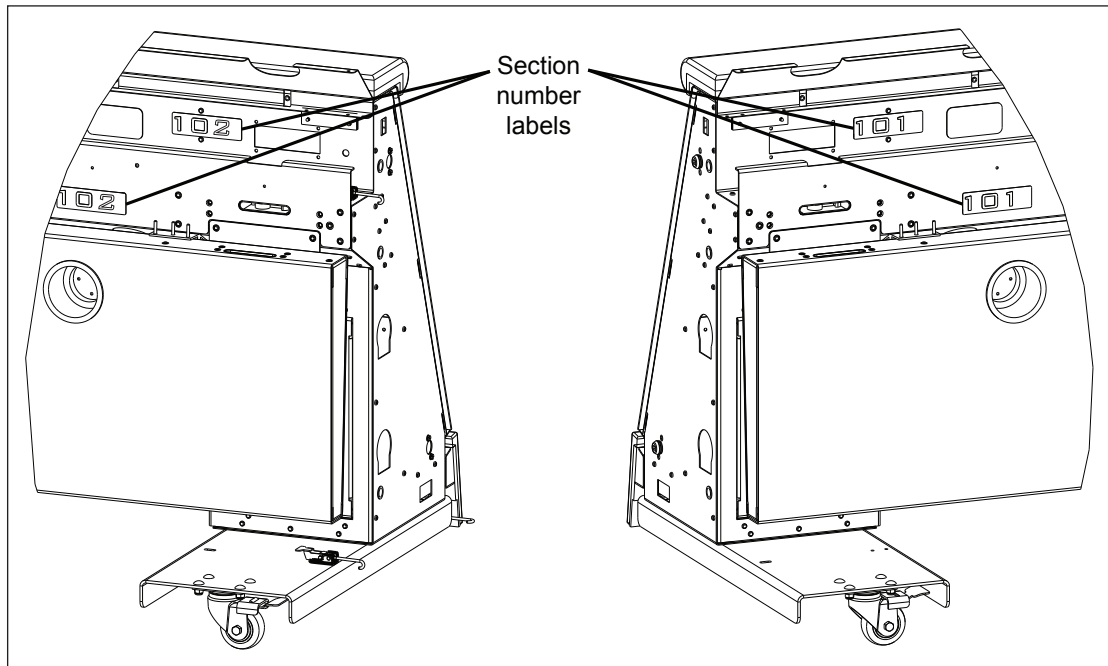

Figure 5: Section Number Label Locations
1. Look at the back side of the tables to determine the section numbering. Section numbers are applied to the back of each table at the locations shown in **Figure 5**. The farthest right table (when viewed from the rear) will typically be labeled "101", then the next table to its left will be "102", and so on.